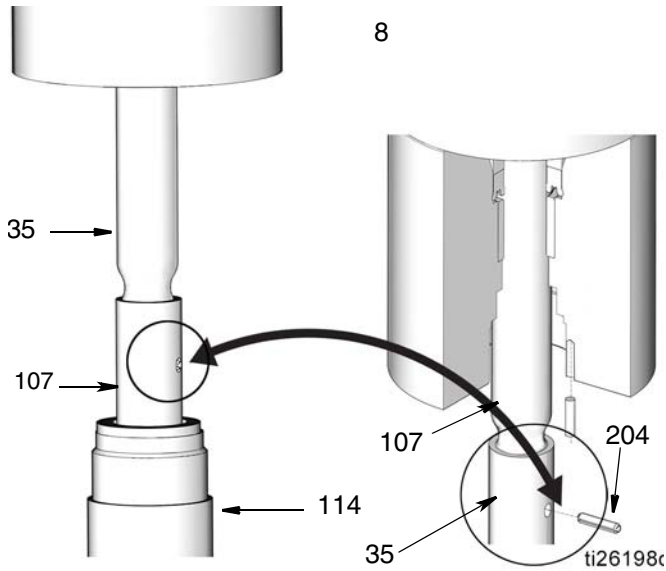

FIG. 5
7. Use a strap wrench on spacer tube (114) to unscrew it out of the pump adapter (8) and slide it down as far as it will go (FIG. 5).
8. Pull connecting rod (107) out of spacer tube (114) to access the pin (204). Remove pin (204) (FIG. 5).
9. Unscrew displacement rod (35) from connecting rod (107) from displacement rod (35) (FIG. 5).